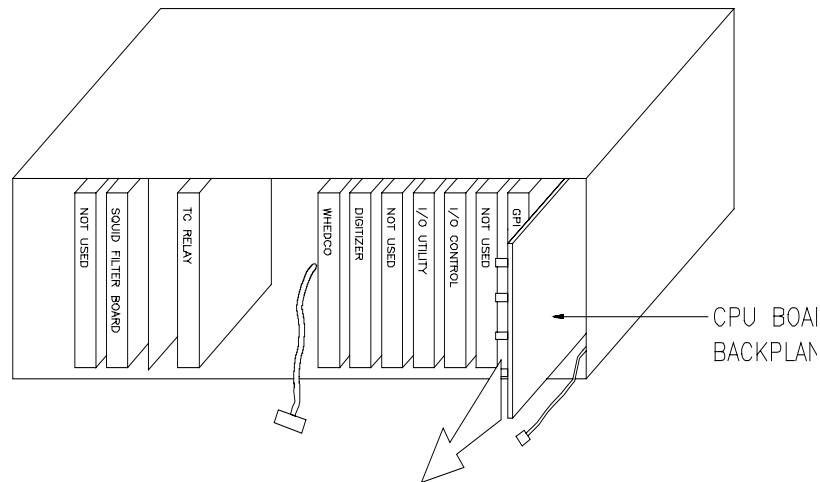

Figure 17. Removing CPU board.
- Remove the CPU board by pulling it out of its socket (**Figure 17**). It may be seated quite tightly. Grip the board by the top and bottom edges, being careful not to contact any of the board components. Do not bend any components during removal. For best results, ease the board out by pushing the board up and down a little as you pull it away from the slot.